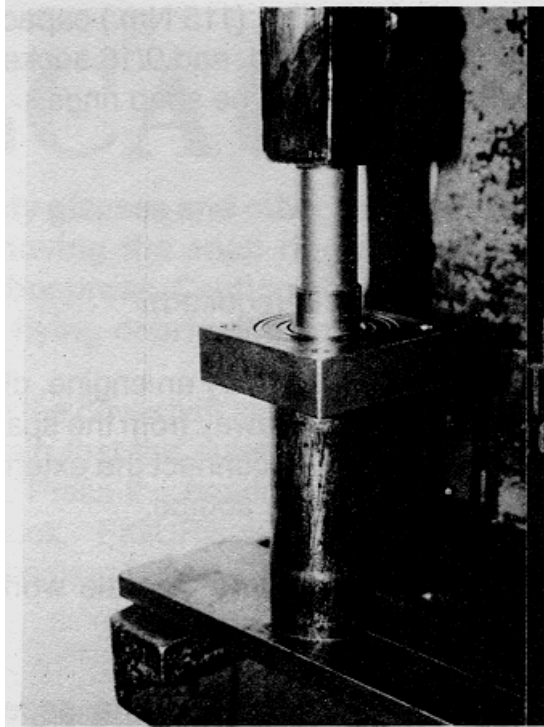

FIGURE 46
6) Position the bearing block on the arbor press with the bearing facing up. Determine that the bearing block is properly supported. Using the arbor press and an appropriate sized thrust bushing, remove the internal hexagon bushing from the bearing. FIGURE 46.